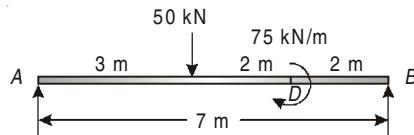

Fig. 4.36
- 4.10.** Determine the maximum deflection, in terms of EI for a beam as shown in Fig. 4.36.